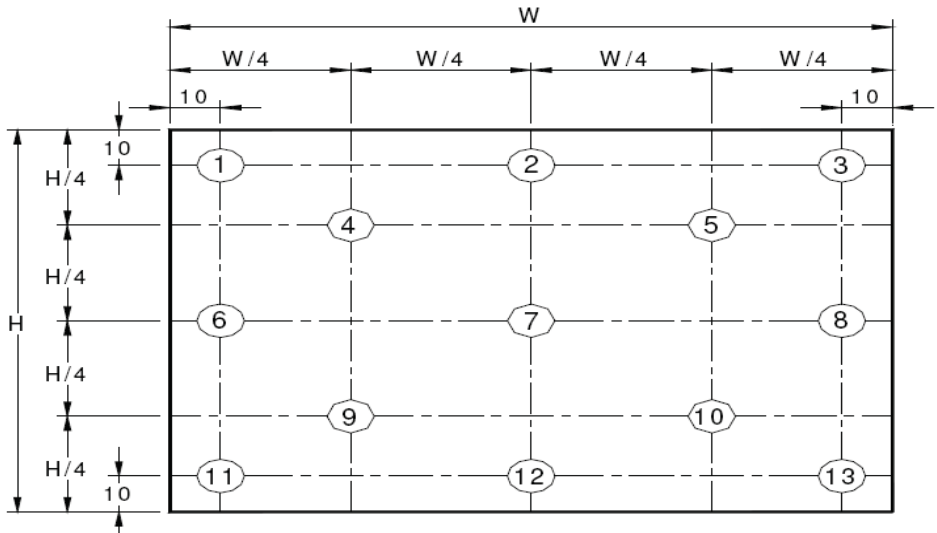

Figure 9. Uniformity Measurement Locations (13 points)
- The White luminance uniformity on LCD surface is then expressed as : $\Delta Y = \text{Minimum Luminance of 5(or 13) points} / \text{Maximum Luminance of 5(or 13) points.}$ (see Figure 8 and Figure 9).
The White luminance uniformity on LCD surface is then expressed as : $\Delta Y5$ = Minimum Luminance of five points / Maximum Luminance of five points (see Figure 8) , $\Delta Y13$ = Minimum Luminance of 13 points /Maximum Luminance of 13 points (see Figure 9).